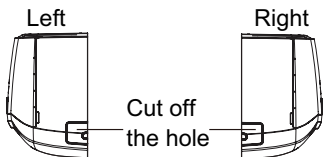

Fig.4
- (2) When selecting leading out the pipe from left or right, please cut off the corresponding hole on the bottom case. (As show in Fig.4)